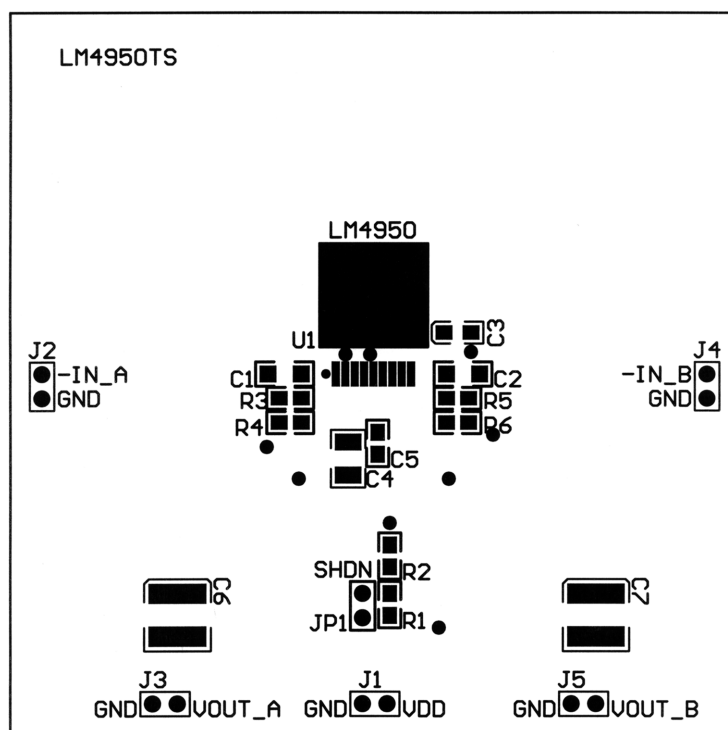

Figure 67. Recommended KTW SE PCB Layout:
Figure 67 through Figure 69 show the recommended two-layer PC board layout that is optimized for the DDPK-packaged, SE-configured LM4950 and associated external components. Figure 70 through Figure 72 show the recommended two-layer PC board layout that is optimized for the DDPK-packaged, BTL-configured LM4950 and associated external components. These circuits are designed for use with an external 12V supply and 4Ω(min)(SE) or 8Ω(min)(BTL) speakers.